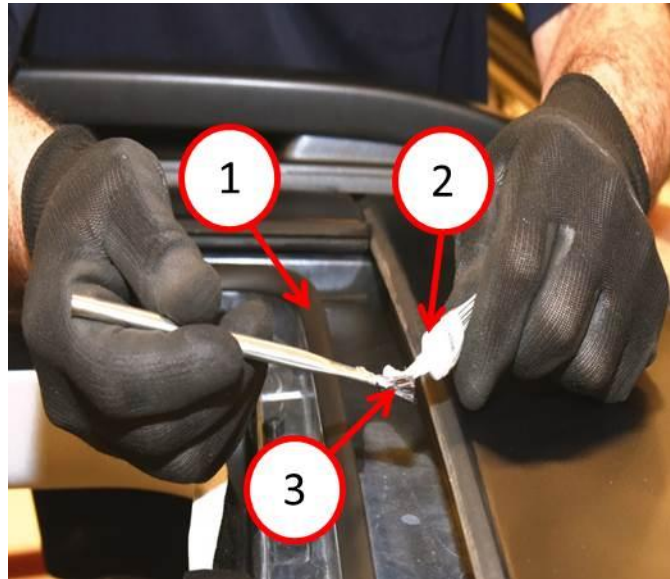

Fig. 6 Weather Strip Lubricant
20. Using a clean cloth, wipe off the primary seal to clean the surface (Fig. 6).
21. Using a brush or equivalent, apply weather strip lubricant (P/N 04773427) evenly across the entire primary seal surface (Fig. 6).